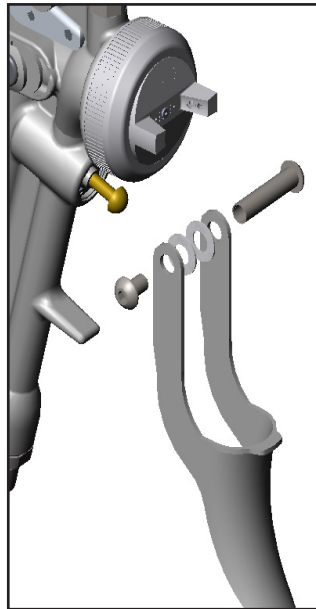

Figure 10: Trigger Removal
7. Lubricate the fluid needle as indicated in Figure 10 and reinstall fluid needle assembly.